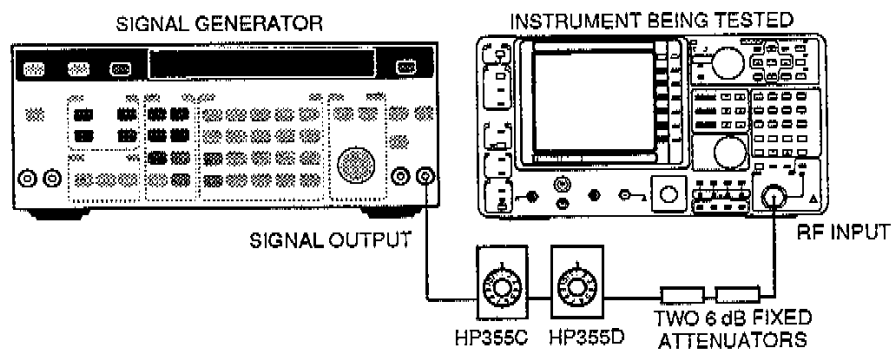

Figure 3-30. Log Self-Correction Test Setup.
1. Connect the signal generator to the instrument's RF INPUT connector through a pair of variable step attenuators (10 dB and 1 dB, respectively) and a pair of 6 dB fixed attenuators (as shown in Figure 3-30).